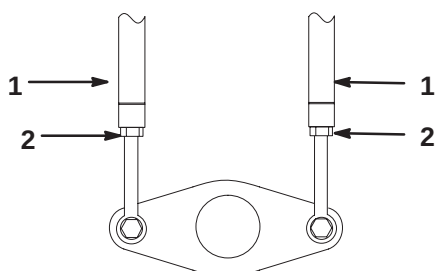

Figure 21
5. Loosen the jam nuts on the traction rods, under the control panel (Fig. 21).